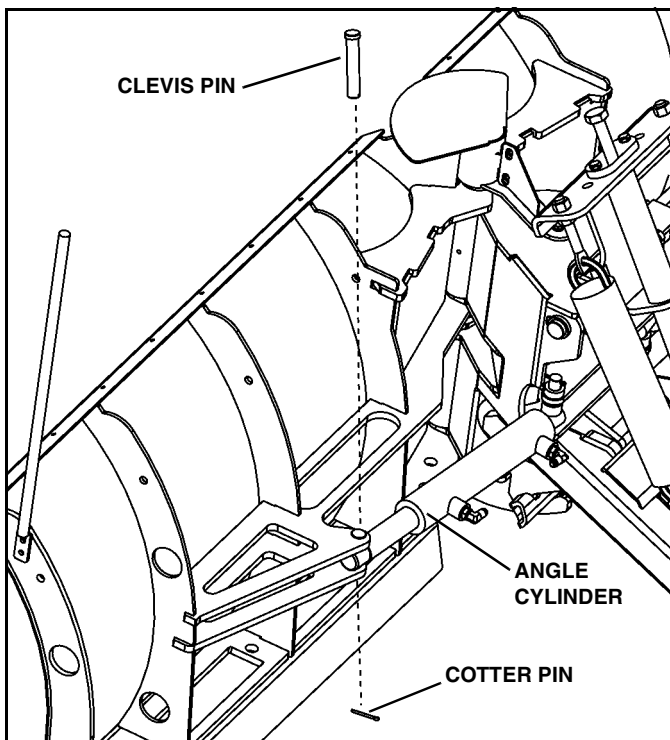

Figure 1-8
7. Lower each angle cylinder end, and attach angle cylinder to the each blade frame with 3/4" x 4" clevis pin (p/n 98100007) and 5/32" x 1-1/2" cotter pin (p/n 98009085). (See Figure 1-8). Repeat for opposite side.